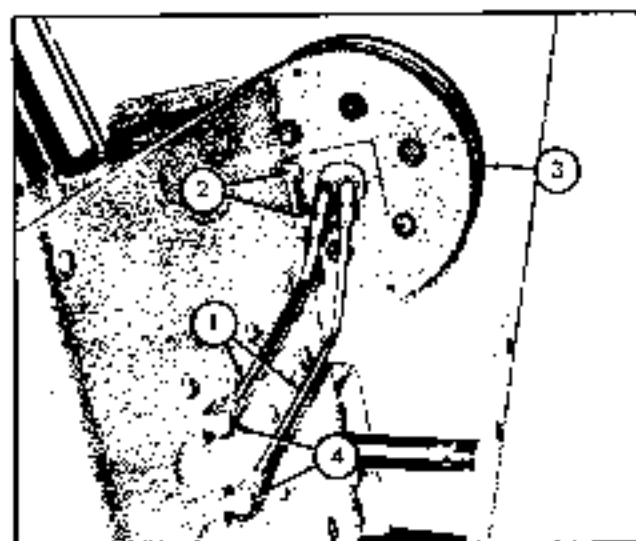

Fig. 156. L.H. hose reel
l. Attach the reel to the cowl and install the hydraulic tubes between valve and reel as shown in Fig. 156. Tighten line connections securely.